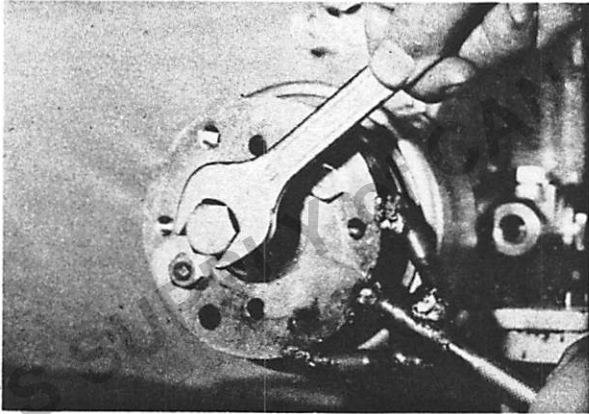

Fig. 4-74 Pulling out the timer
3. Pull out the timer assembly using the extractor shown in **Fig. 4-74**.